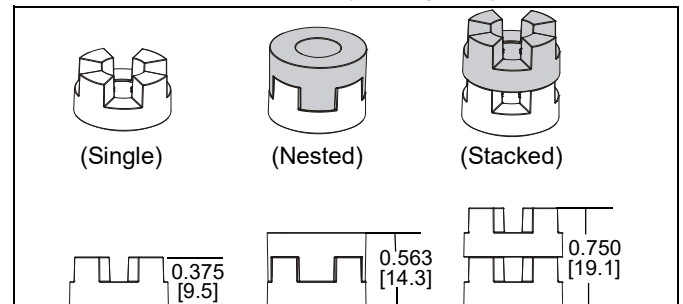

Figure 3
NOTE: The nesting spacers (M) may be used separately, or put two together in different configurations to create different size spacers. (See Figure 3)